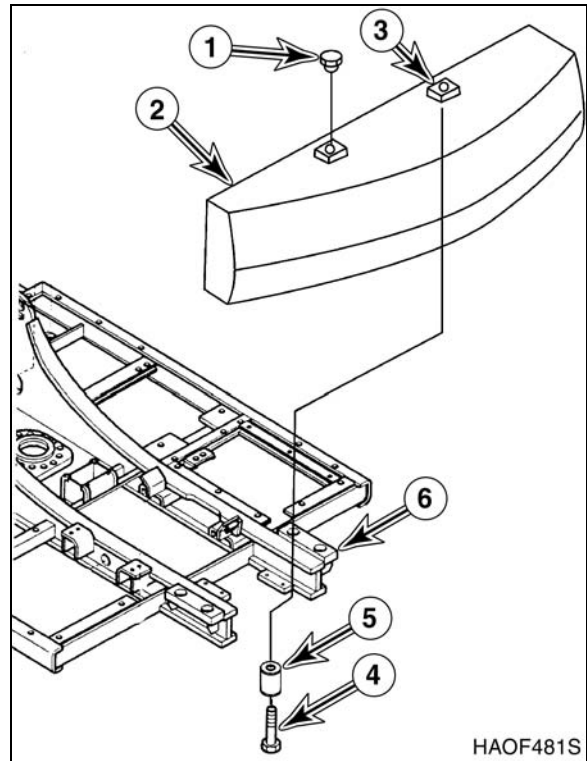

Figure 6
4. Install four bolts (4, Figure 6) with spacers/washers (5) into counterweight until spacers contact support frame. Fully lower counterweight onto support frame and finish tightening bolts.
NOTE: Tighten bolts (4, Figure 6) to values shown in following table.
5. Remove lifting device and lifting eyes from counterweight lifting holes (3, Figure 6).
6. Install two caps (1, Figure 6) in lifting holes (3).